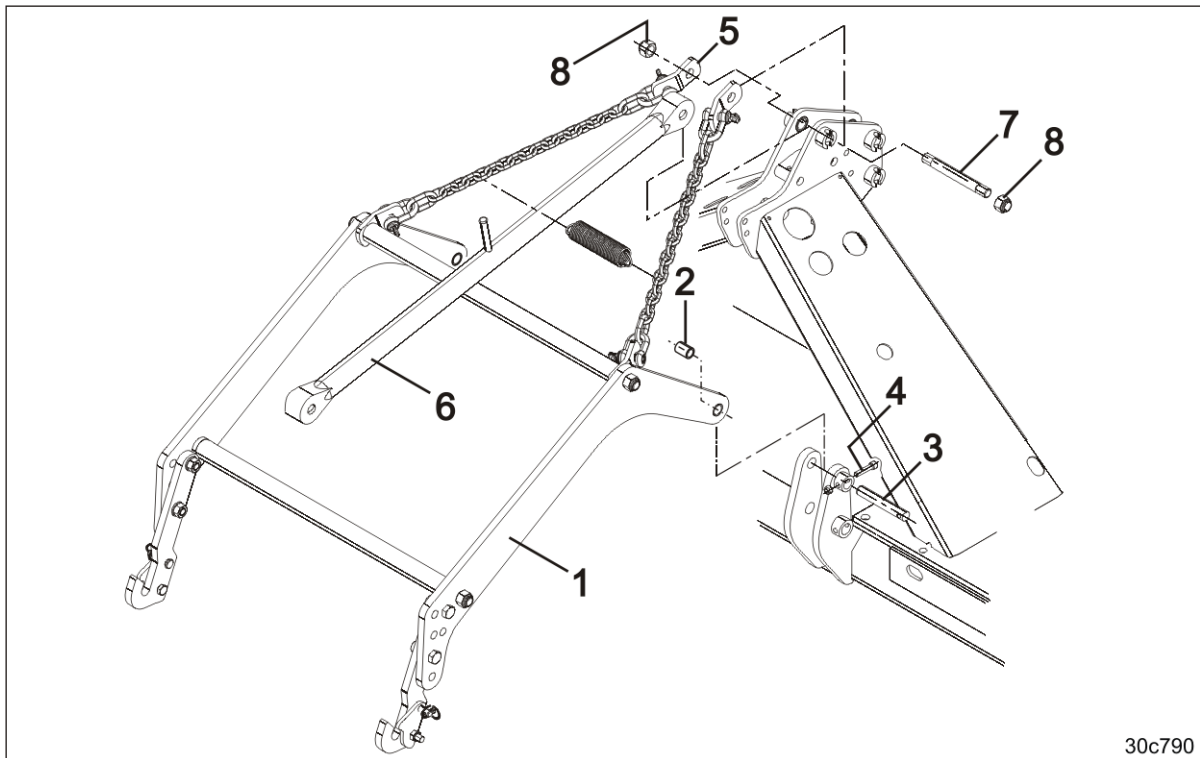

Fig. 79
1. Attach the coupling carrier arms (Fig. 79/1) to a crane.
2. Secure the coupling carrier arms with two spacer sleeves (Fig. 79/2) to the soil tillage implement with two pins (Fig. 79/3).
3. Secure the pins with bolts (Fig. 79/4) and nuts.
4. Secure the chains (Fig. 79/5), together with the top link (Fig. 79/6), to the soil tillage implement with a pin (Fig. 79/7).
5. Secure the pin with two securing nuts (Fig. 79/8).